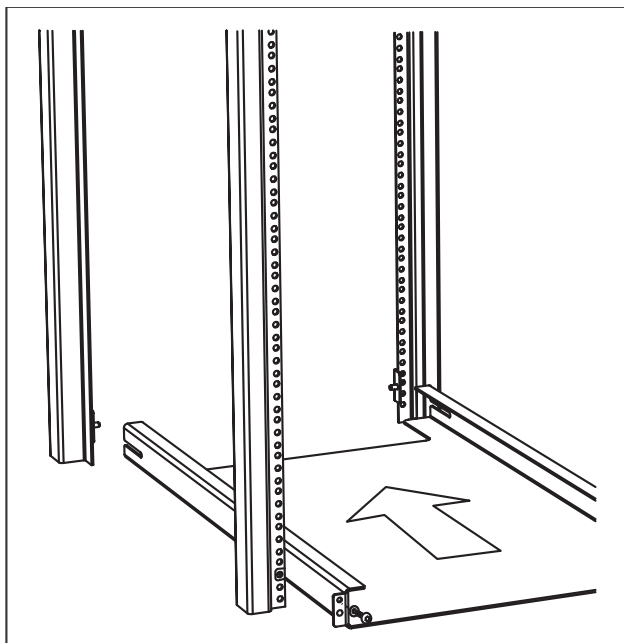

Figure 20: Inserting the rail tray in the rack
6. Position the rail tray, as shown in Figure 20 and insert the tray into the rack from the front.